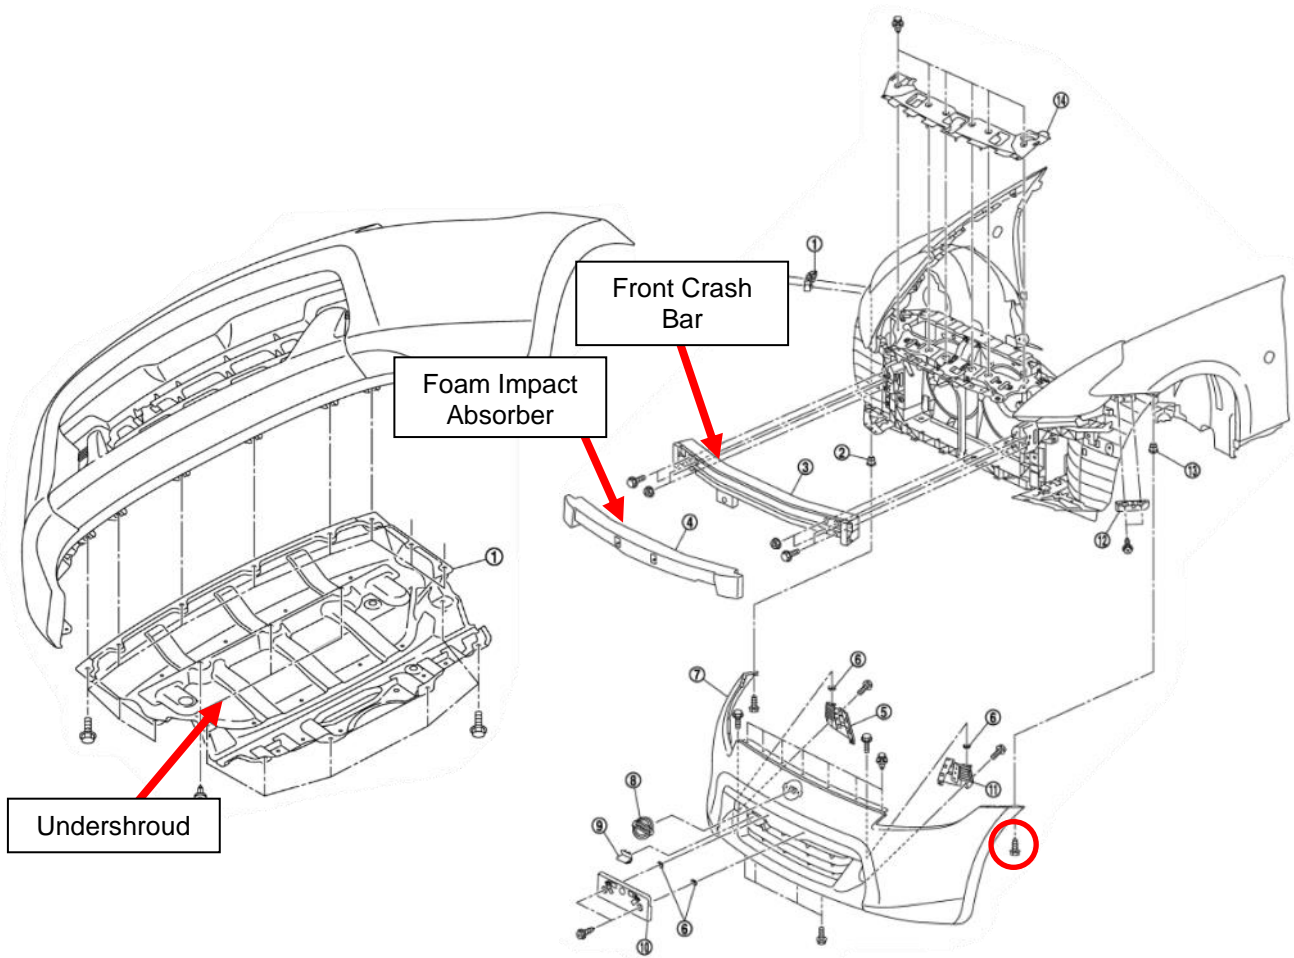

Figure 1
370Z Owners: Use Figure 1 below as reference for Steps 6-12. G37 Owners can skip to Step 13.
7. Remove plastic clips and the front wheel/fender liners to reveal (1) one mounting screw at each side of the vehicle which mounts the corner of the Bumper Fascia to the vehicle (screw circled in Figure 1 above). Remove mounting screw on each side.
8. Remove (7) seven plastic pop clips securing the Upper Bumper Fascia to the vehicle at radiator core support.
10. Remove (8) eight plastic clips which attach Diversion Panel/Radiator Air Guide to Composite Radiator Core Support. Set aside Diversion Panel.
12. Remove (4) four bolts and (4) four hex nuts securing Front Crash Bar to the chassis, retain the hardware as it will be reused. Remove the Crash Bar.